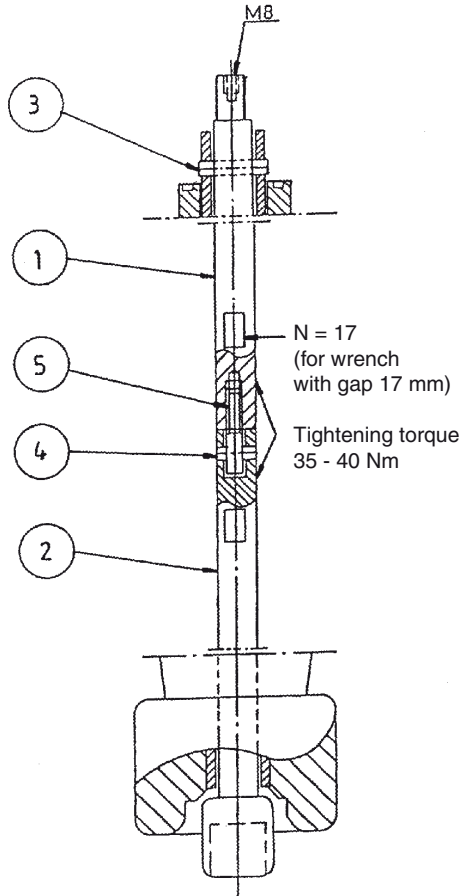

Fig. 9. Solid conductor 800 A
10. Lock the solid rod with the locking pin according to Figs. 9 and 10.